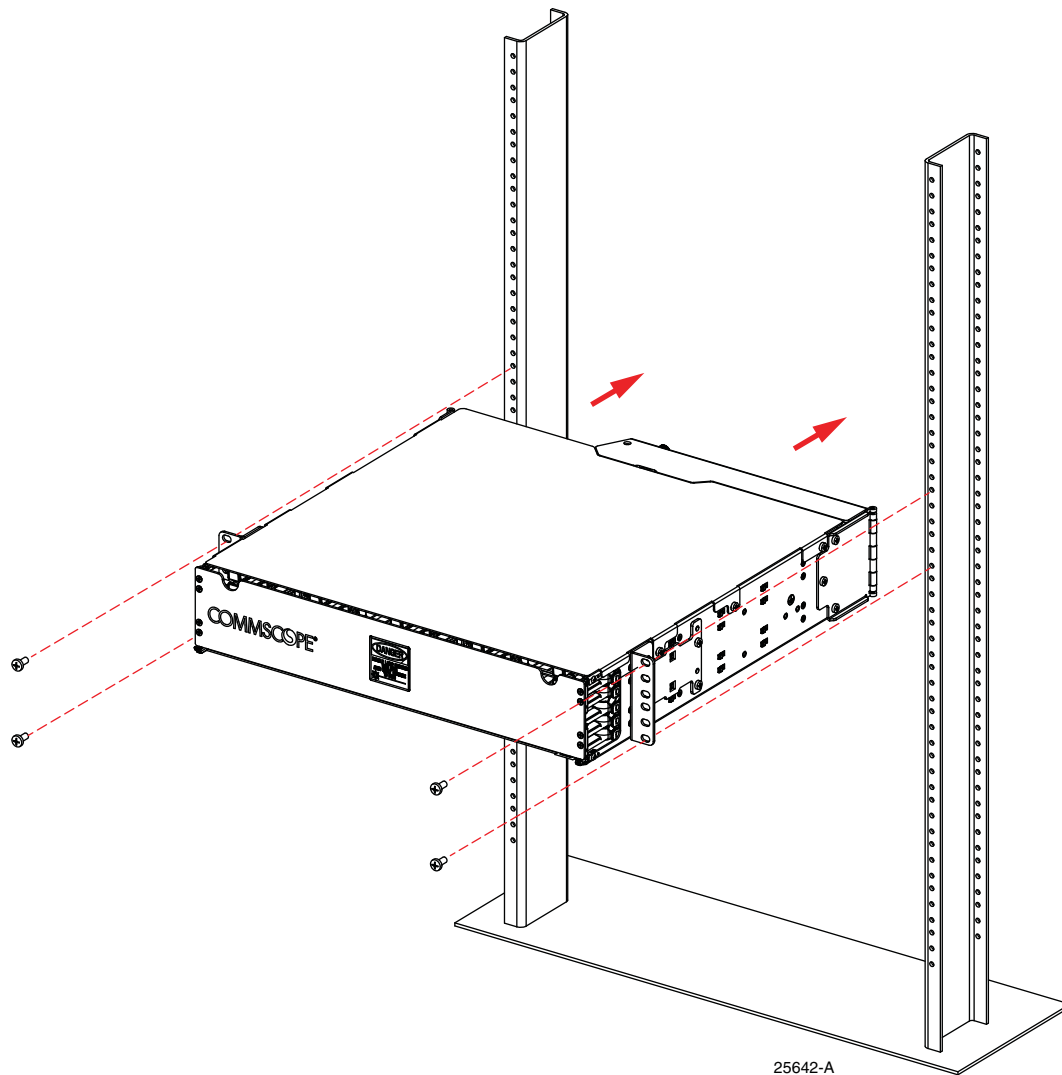

Figure 16. Mounting the Panel on the Equipment Rack (2RU Model Shown)
3. Hold the panel up to the assigned mounting space and align the holes in the mounting brackets with the holes in the equipment rack as shown in Figure 16. Secure the panel to equipment rack using the #12-24 screws provided. Torque these screws to approximately 27 pound-inches (3.1 Newton meters).